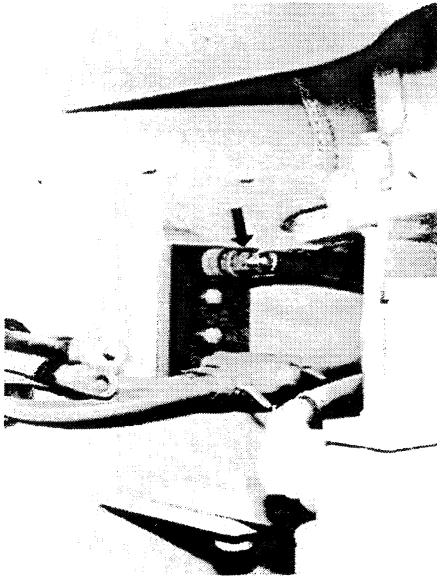

Figure 1: Battery Cable Junction Block
3. Disconnect the battery ground cable at the junction block (Fig. 1) inside the left front frame panel.